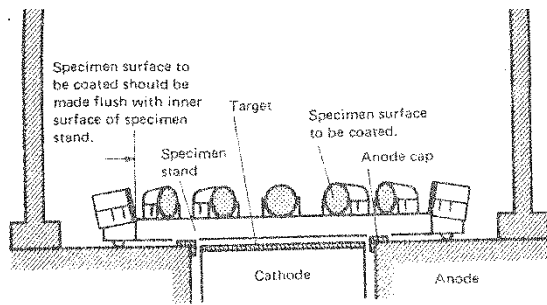

Fig. 1: How to mount specimens for coating.
2. Open the chamber and place the sample(s) on the sample holder according to Fig.1.